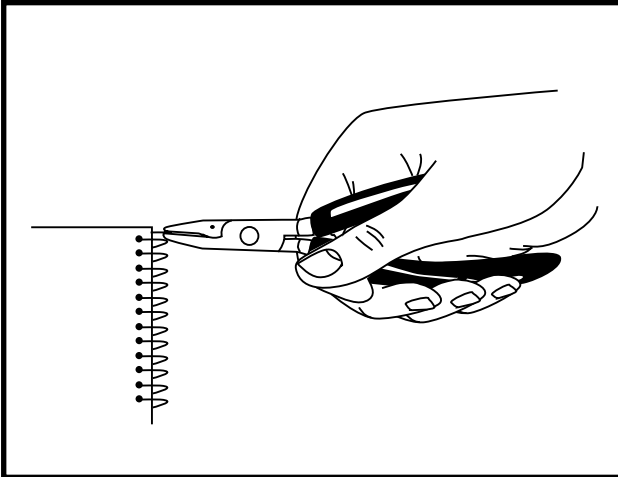

Figure 4
3. Place the crimpers in your right hand with the red dot facing up (see Figure 4).
5. Quickly squeeze the crimper handles together to cut and crimp in one motion (see Figure 4). It is not necessary to twist the crimpers.